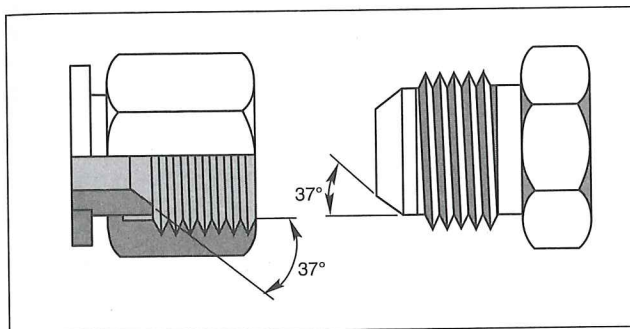

Fig. 9-27 — JIC couplings seal by metal-to-metal contact between mating seats.
**JIC 37°.** The fittings, Fig. 9-27, seal by conical, metal-to-metal contact between mating male and female seats. They are the most widely used con-